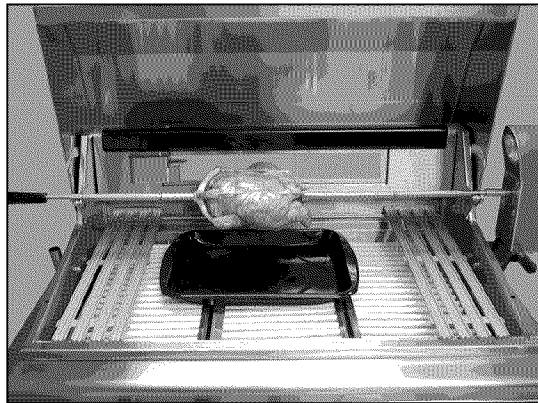

FIG. 40
2. Verify placement as shown in Fig. 40.